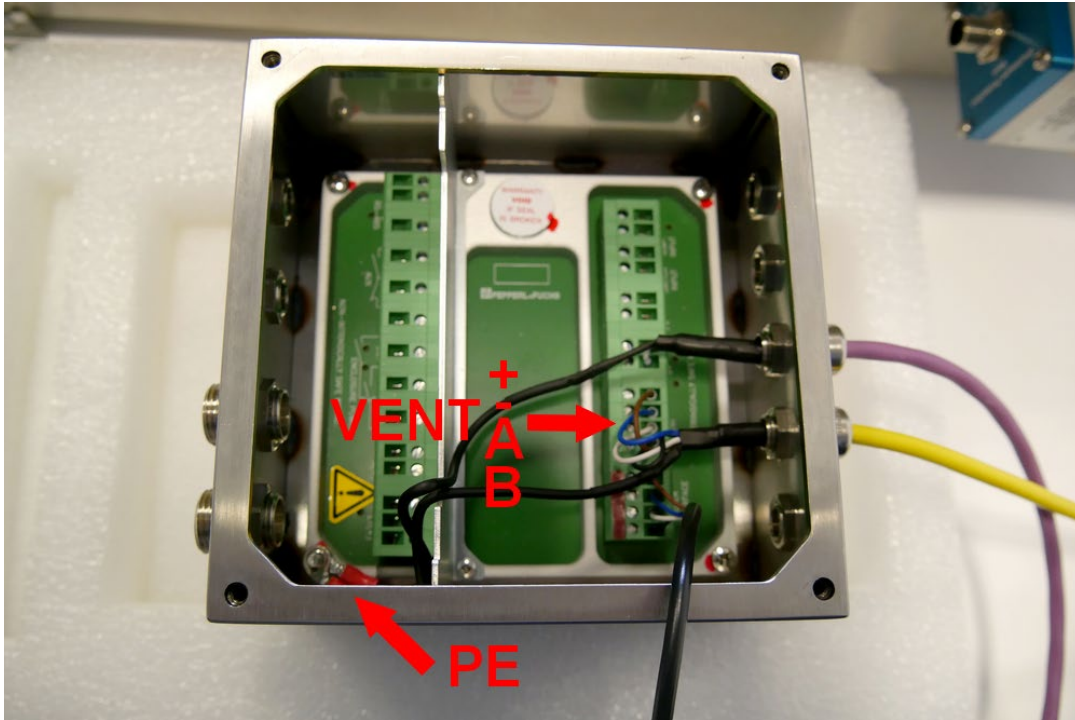
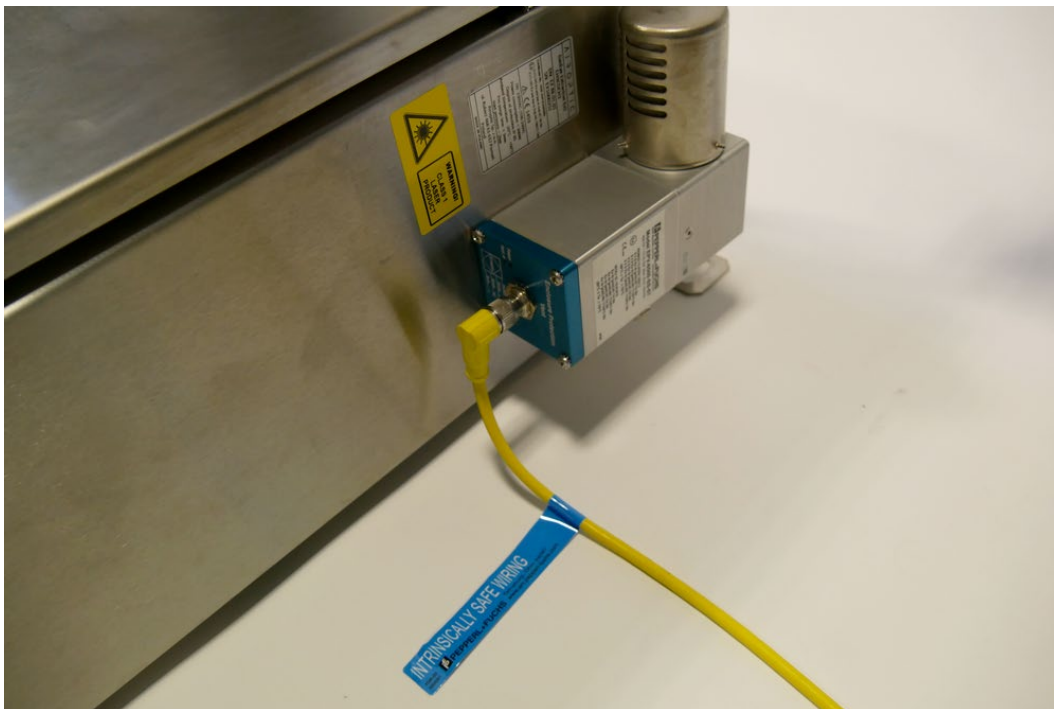

Figure 141. Vent connectors – controller side.
Figure 142. Vent cable installed.
1. Connect the relief vent communication cable (8) between the purge controller (3) and the relief vent (2). On the controller side, lead the cable through the M12 gland (
2. Figure 141). After installation, affix the included blue stickers with the words “Intrinsically safe wiring” to both ends of the cable (Figure 142).